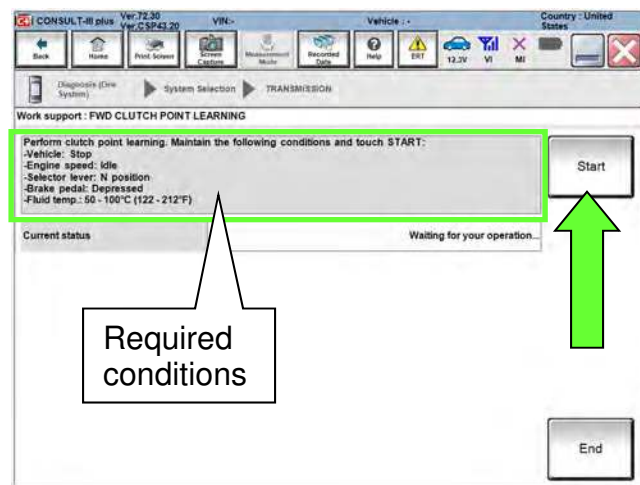

Figure 188
- Confirm that all of the required conditions indicated in Figure 188 are being met.
180. While maintaining all conditions shown in Figure 188 and the "Current status" indicates "EXECUTING", shift the CVT into **D** and then wait until the Current status indicates "COMPLETED".